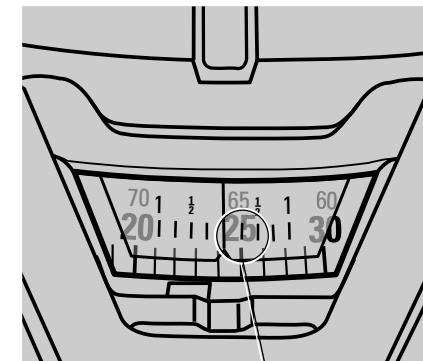

FIG. V2
2. Set the miter angle to the nearest whole degree desired by aligning the center mark in the vernier scale, shown in Figure V1, with the whole degree number etched in the miter scale. Examine Figure V2 closely; the setting shown is 24 degrees right miter.
25 degrees. Figure V2 shows a setting of 24-1/4 degrees right miter.